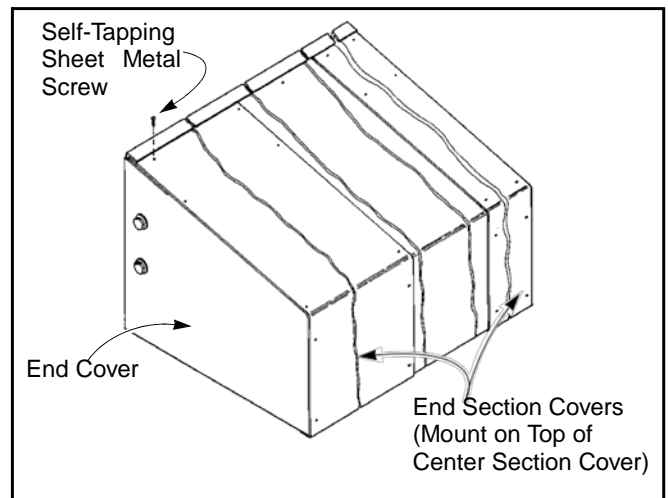

Figure 53
3. Three- or four-piece hood only: Install hood center section(s) and secure to hood end sections using #12 x $\frac{3}{4}$ -in. self-tapping sheet metal screws. (See Figure 53.)